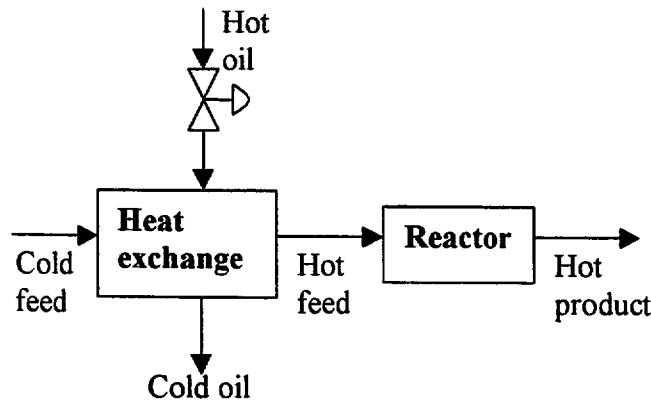

Figure 6. Exothermic reactor with feed pre-heater.
- b) It is proposed to implement heat integration on the exothermic reactor process given in Figure 6. Propose a heat integration scheme for this process.